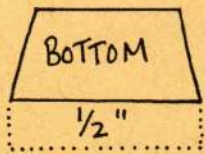

FIG. 3A
Make a pattern for covering the foot of the metal blank. On a piece of cardboard, trace around the foot of the bookend and add about 1/2" to the base of the pattern, as shown in Fig. 3A. This piece will cover the bottom of the bookend. Cut two (2) from your leather.
Once you have done your skiving, you are ready to glue. Take a piece of steel wool or sandpaper and rough up the entire surface of both bookends, which prepares the surface for maximum adhesion. Spread contact cement on the bottom of each bookend foot and 1/2" up the face of the bookend, then on the flesh side of the two pieces of leather from Fig. 3A. Allow the cement to set, then adhere them, making sure there are no ripples in the leather.